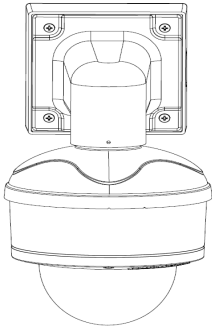

Figure 6
9. Attach the Dome Cover to the MegaDome® G3 RS camera and fasten securely four captive screws as shown in Figure 6.